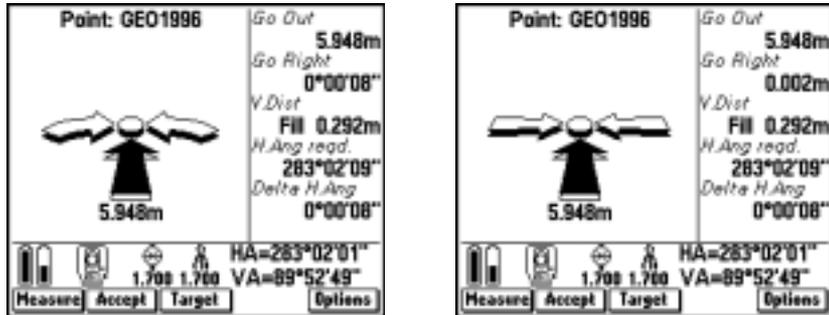

Figure 19.27 Graphical display screen – distance measurement made
3. Press **Measure**. When the distance measurement is made, a screen similar to one of those shown in Figure 19.27 appears.
If the instrument is on line, two left/right outline arrows appear. If the distance is not yet correct, a solid up/down arrow shows the direction and amount that the target must move towards or away from the instrument. See Figure 19.27.